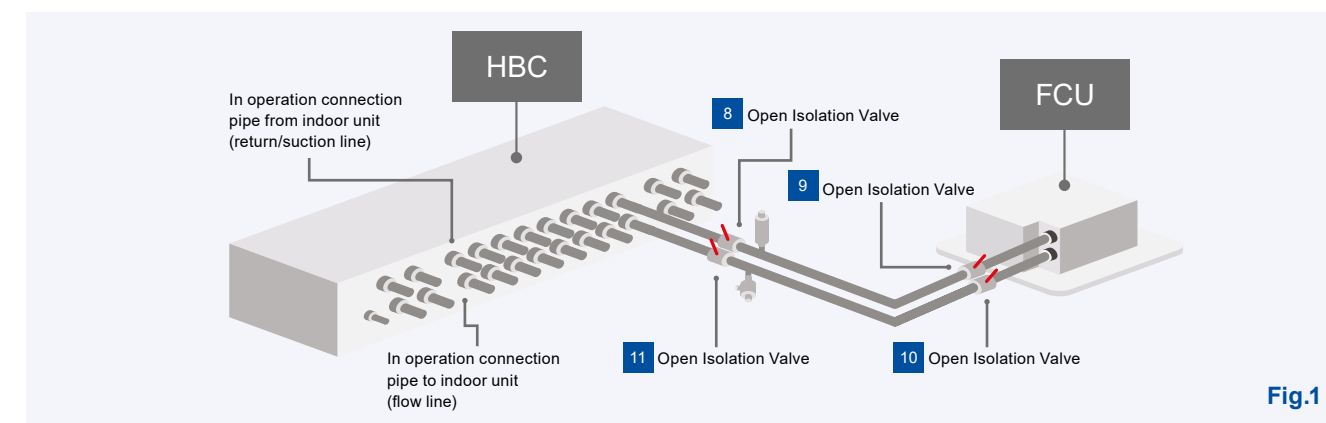

Fig.1
8. Opening the first isolation valve on the return line at the HBC (top right-hand side, refer to Fig.1) check pipe runs for any visible leaks.
9. Once filled open the isolation valve at the indoor unit on the return line to fill the indoor unit (Fig.1). If the indoor unit has a manual air vent open to remove air until water is present and close manual air vent.
10. Open the isolation valve on the flow side of the indoor unit (Fig.1) to fill the pipework back to the HBC and check the pipework for leaks.
11. Open the isolation valve at the HBC on the flow side (bottom pipe) refer to Fig.1.